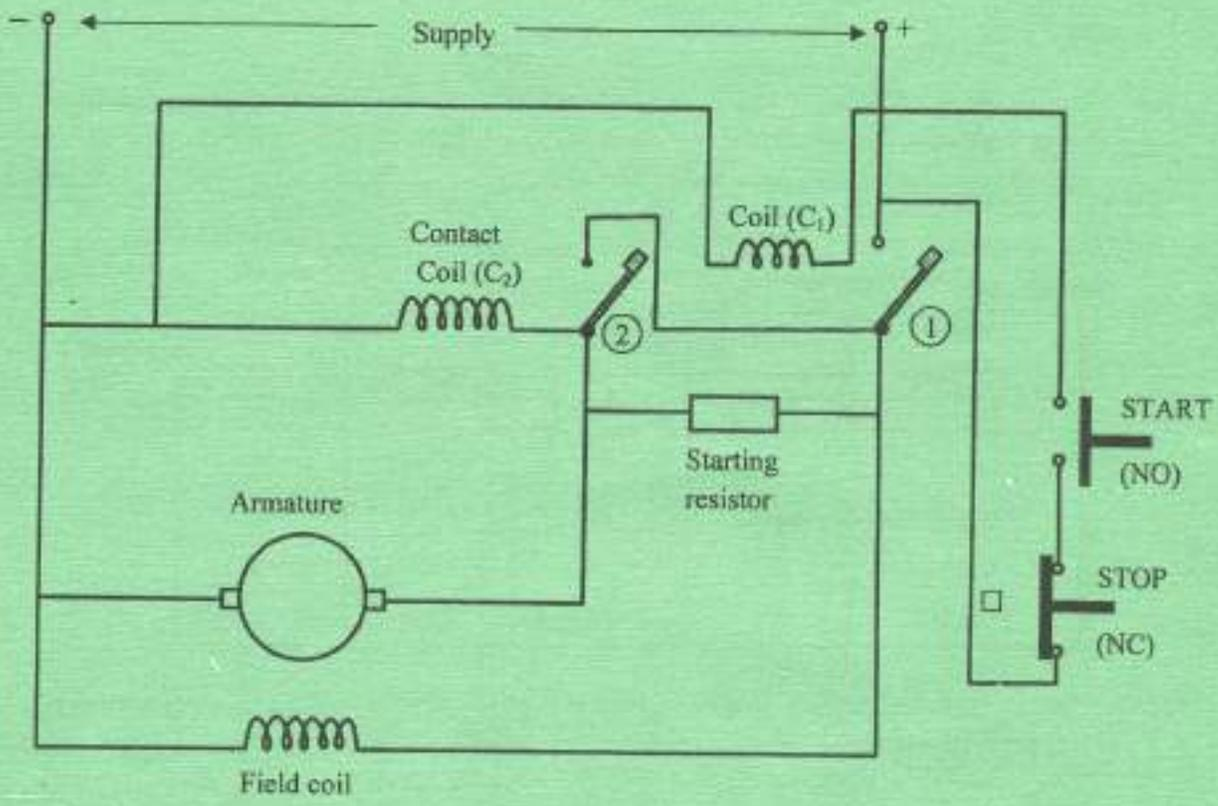

Fig. 2
- (b) Figure 2 shows a contactor control circuit of a d.c. motor: